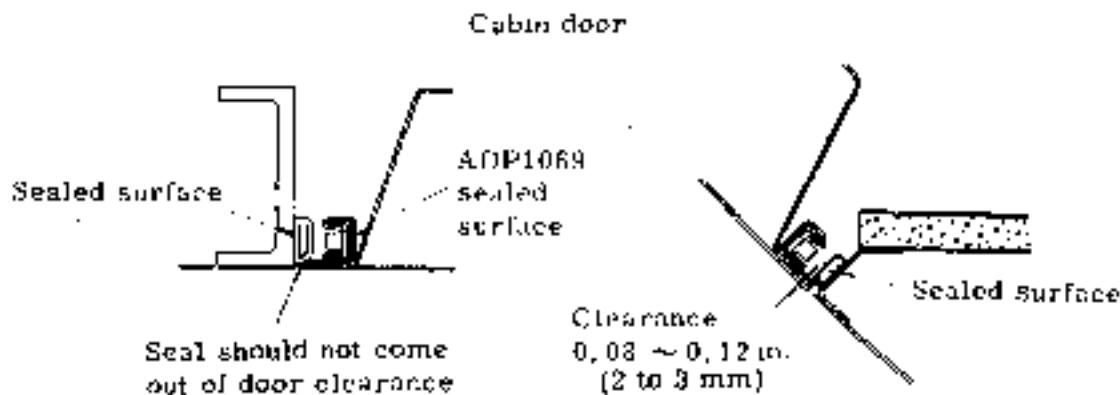

Fig 2-55 Repair of door rubber seal
- (4) After setting proper position, press the seal down to the cementing surface to remove air. Roll the seal if possible.
- (5) After cementing, leave it at least 8 hours at 74°F (23°C). Heat or water should not be applied on the cementing surface for 72 hours.
- (6) Wipe off excess cement with a Methyl ethyl keton or toluene moistened cloth before drying.
8.13.4 REPAIR OF RUBBER SEAL (See Fig 2-55)